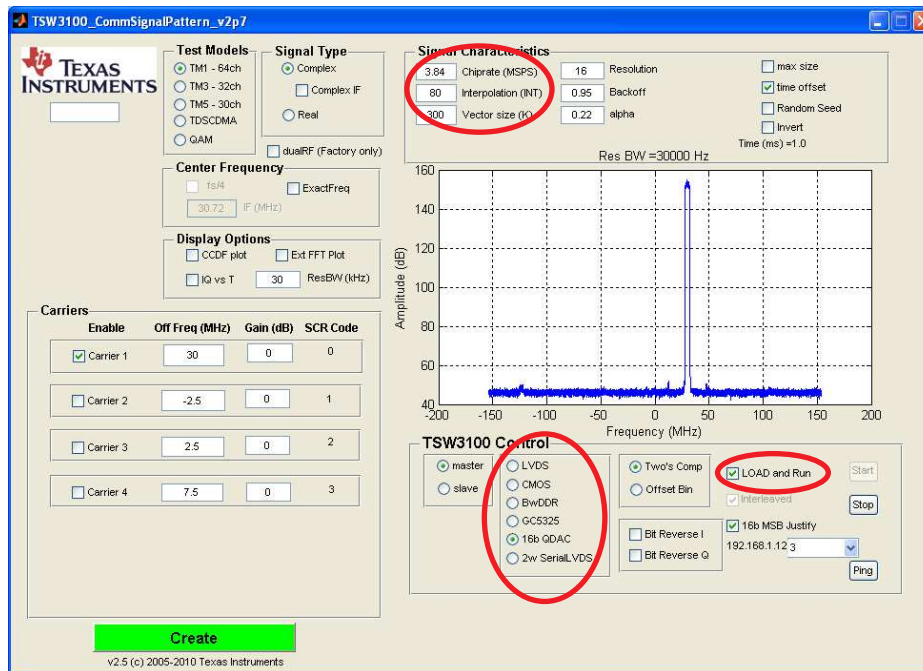
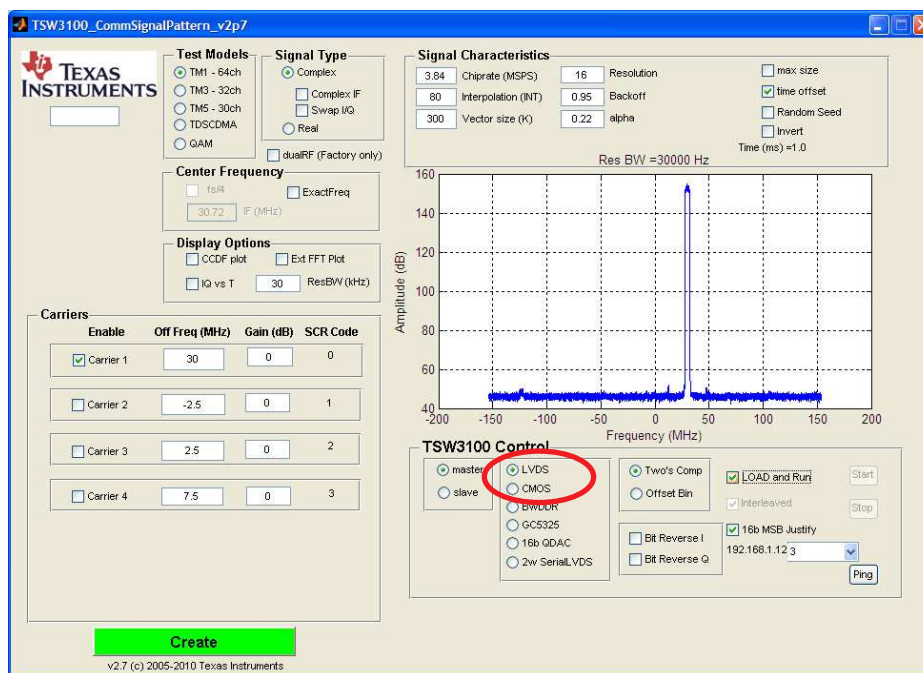

Figure 17. TSW3100 CommSignalPattern (WCDMA) Programming GUI for DAC3484
Figure 18. TSW3100 CommSignalPattern (WCDMA) Programming GUI for DAC3482, DAC34H84, and DAC34SH84
- Select the **16b QDAC** output button for DAC3484 (see Figure 17) or **LVDS** output button for DAC3482, DAC34H84, and DAC34SH84 (see Figure 18).